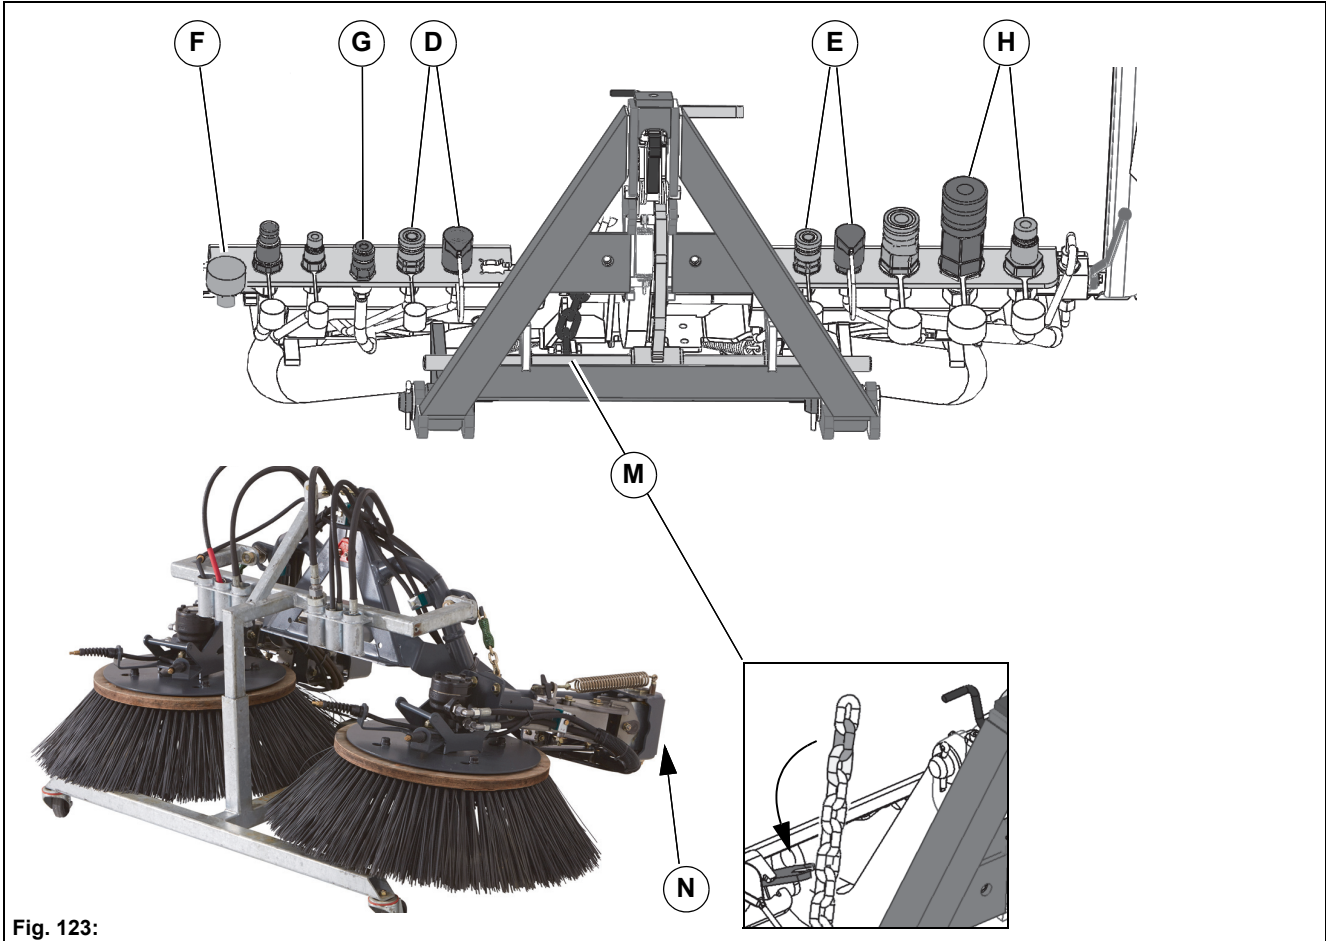

Fig. 123:
- Right actuator – Supply/return = **Fig. 123-D**
- Left actuator – Supply/return = **Fig. 123-D**
- 19-pin coding plug = **Fig. 123-F**
- Water connection for sweeping unit spray nozzles = **Fig. 123-G**
- Sweeping unit hydraulic motors – Supply/return = **Fig. 123-H**
8. Hook the chain **Fig. 123-M** in the first chain link. Lower the front tool carrier and drive the brush arms apart. Check that the edge **Fig. 123-N** stands vertically. Change the hooking position of the chain as required.